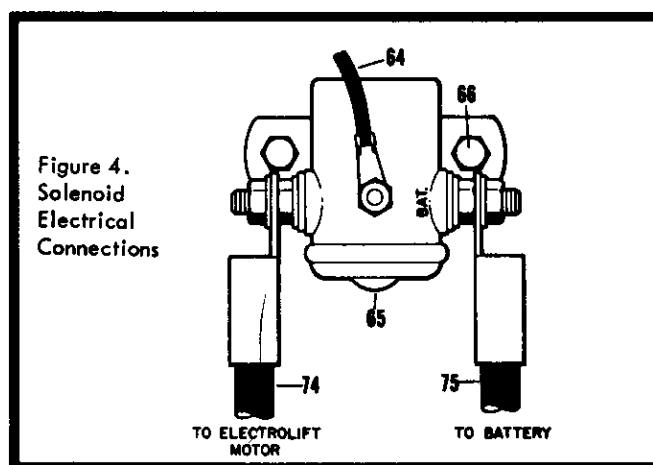

Figure 4.
3. ELECTRICAL GROUP (See Fig. 4)